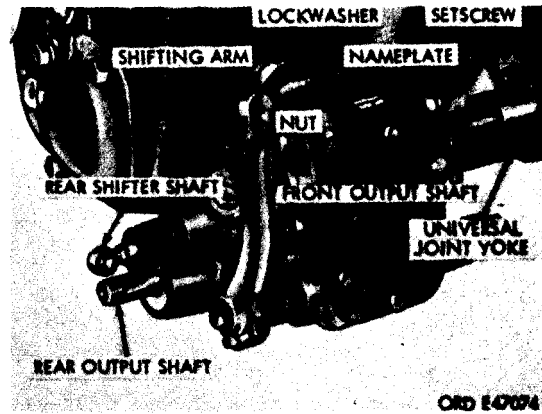

Figure 284. Transmission mounted power takeoff (dump truck M51, M51A2 only)
c. Power Takeoff (Mounted on Transmission; Dump Truck M51, M51A2 Only) (Fig. 284). The
204. Power Takeoff (Dump Truck M51, M51A2 only) (Fig. 284)
- (1) Drain transmission.
- (2) Remove cotter pin from end of power takeoff-control-rod yoke pin, remove yoke pin, and remove control rod from power takeoff shifting arm.
- (3) Loosen hex-socket setscrew in universal joint yoke on output shaft at front of power takeoff.
- (4) Remove cotter pin from end of power takeoff-cross-shaft-rod yoke pin, remove yoke pin, and remove cross-shaft rod from rear shifter shaft (fig. 284).
- (5) Cut locking wire on setscrew securing universal joint yoke to rear output shaft (fig. 284), and loosen setscrew.
- (6) Remove six nuts and lockwashers securing power takeoff to transmission. Slide power takeoff free of mounting studs.
- (7) Tap yoke on output shaft lightly to remove front winch propeller shaft from power takeoff.
- (8) Tap yoke on rear output shaft lightly to remove hydraulic-hoist-propeller shaft from power takeoff.
- (9) Remove and discard power takeoff mounting gasket.
- (3) Aline key on rear output shaft (fig. 284) with keyway in yoke on front of hydraulic-hoist-pump propeller shaft, and tap lightly on yoke to slide it onto-output shaft.
- (4) Position power takeoff on mounting studs on side of transmission, and install six lockwashers and nuts on studs. Tighten nuts 30 to 40 pound-feet torque.
- (5) Drive yoke onto front output shaft until inner end of key is flush with end of yoke, and tighten hex-socket setscrew in yoke.
- (6) Adjust and connect power takeoff control rod (a) through (d) below.
- (7) Drive yoke onto rear output shaft until inner end of key is flush with end of yoke, tighten hex-socket setscrew in yoke, and lock setscrew in position with wire.
- (8) Adjust and connect cross shaft rod to rear shifter shaft (fig. 284) using same procedures as in (6) above.
- (9) Fill transmission. Refer to LO 9-2320-211-12.